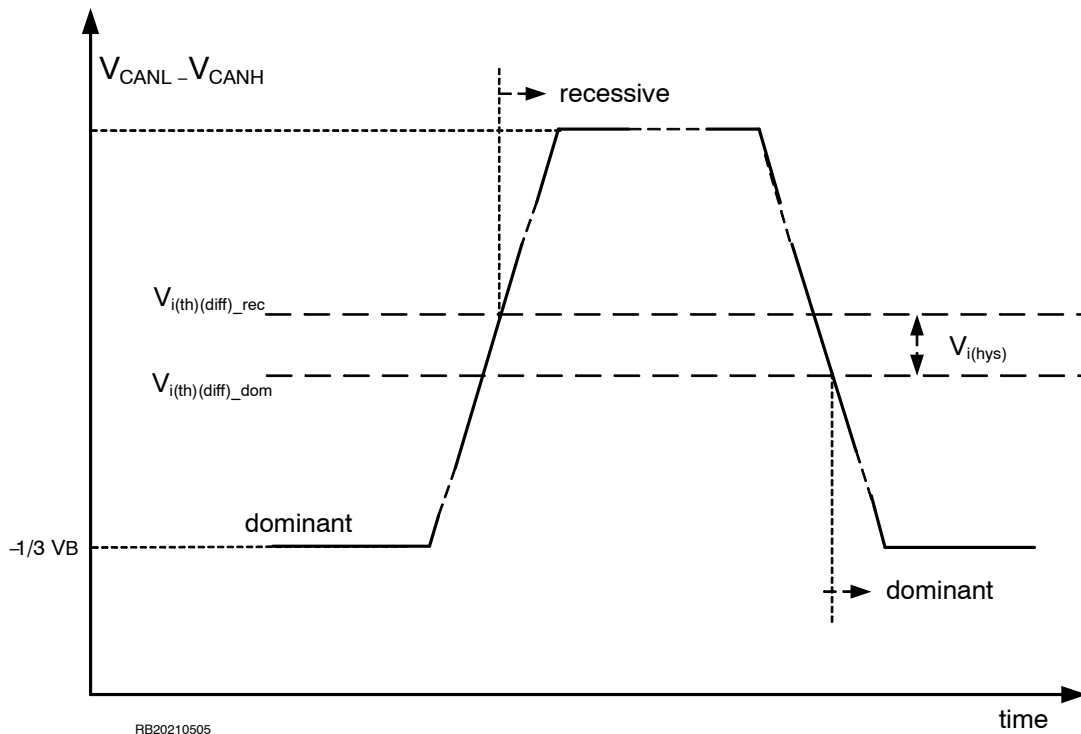

Figure 6. Transceiver Bus Comparators Thresholds
**TIMING CHARACTERISTICS (see and Figure 6)**
If at least one driver became active the bus changes into the dominant state. The dominant state is specified by a voltage levels of typ.  $2/3 V_B$  at CANH and typ.  $1/3 V_B$  at CANL. So, the differential voltage (Voltage at pin CANL minus voltage at pin CANH) change from typ.  $+1/3 V_B$  in the recessive state to typ.  $-1/3 V_B$  in the dominant state (See Figure 6).